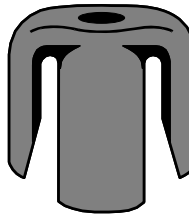
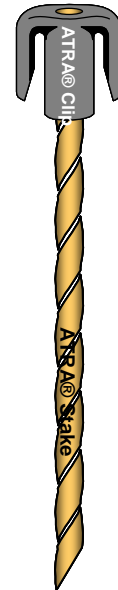
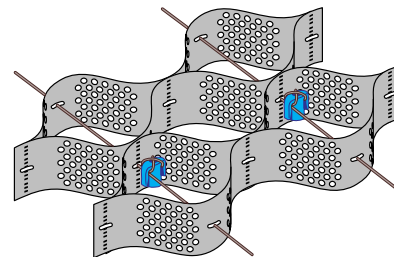

Figure 1 The ATRA® Clip
Figure 2 The ATRA® Anchor
Figure 15 ATRA Load Transfer Restraint Pin
The ATRA® Clip, illustrated in Figure 1, is a molded, high-strength polyethylene device developed by Presto Geosystems. The ATRA Clip is used on a stake to form the ATRA® Anchor as illustrated in Figure 2 or as a load transfer restraint pin as illustrated in Figure 15.
The ATRA Clip used as a restraint pin, transfers sliding load forces from the Geoweb cell to the tendon. See Figure 15.
2. The location on the tendon where the ATRA Clip is to be tied is the point where the tendon intersects the up-slope cell wall as shown in Figure 15.